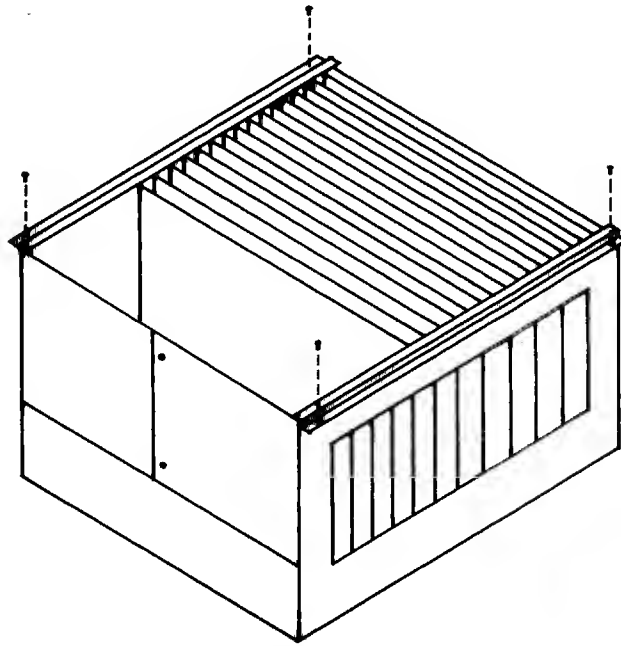

Figure 11-3: Retaining Brackets for S-100 Module Boards
The S-100 module boards (the printed circuit boards you see when you lift off the cover) are secured by a retaining bracket and four screws (see Figure 11-3). To ensure that these boards are properly seated in the 14-slot motherboard, or if you find it necessary to remove one or some of the boards (to enable an automatic hard disk boot, for example), you should follow the procedure outlined below:
8. Return the retaining brackets to their original location (see Figure 11-3).